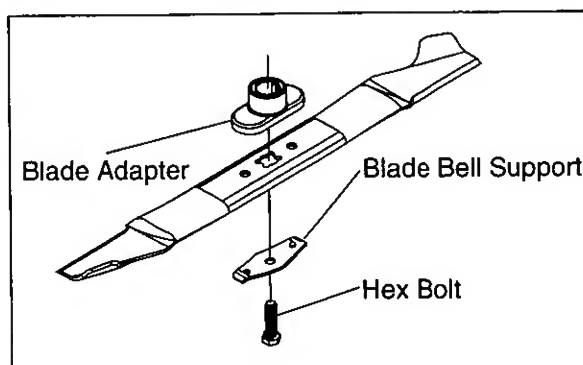

Figure 12
- Be sure to install the blade with the side of the blade marked "Bottom" (or with part number) facing the ground when the mower is in the operating position. See Figure 12